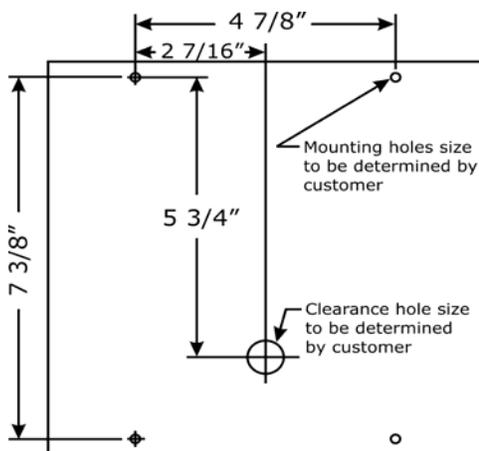

FIGURE 1. Holes Location
1. Position the reader (item b in the Parts List) at the desired location. Observe ADA height requirements. Drill four holes for the screws or anchors, and drill one clearance hole for the cable (see Figure 1). The installer determines the size of mounting holes and cable clearance hole.